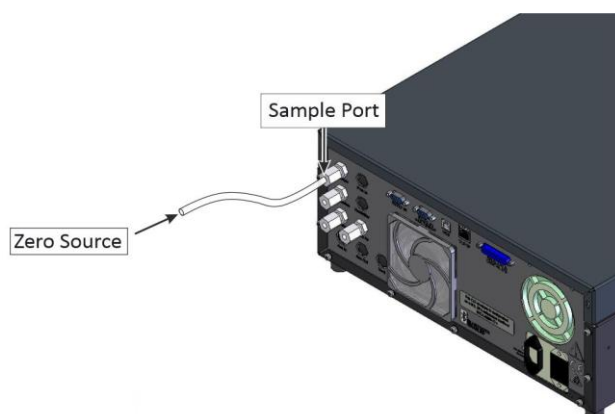

Figure 97 – Zero Calibration Set-up - 2
1. Refer to **Figure 97**. Ensure a suitable zero air source is connected to the **Sample Port**.